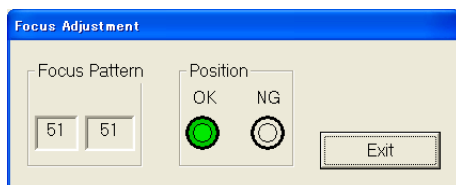

Fig. 4-7-3
- 3) Set the focus position to infinity end, then check that the OK (Green) indicator of “Position” lights as shown in Fig. 4-7-3.